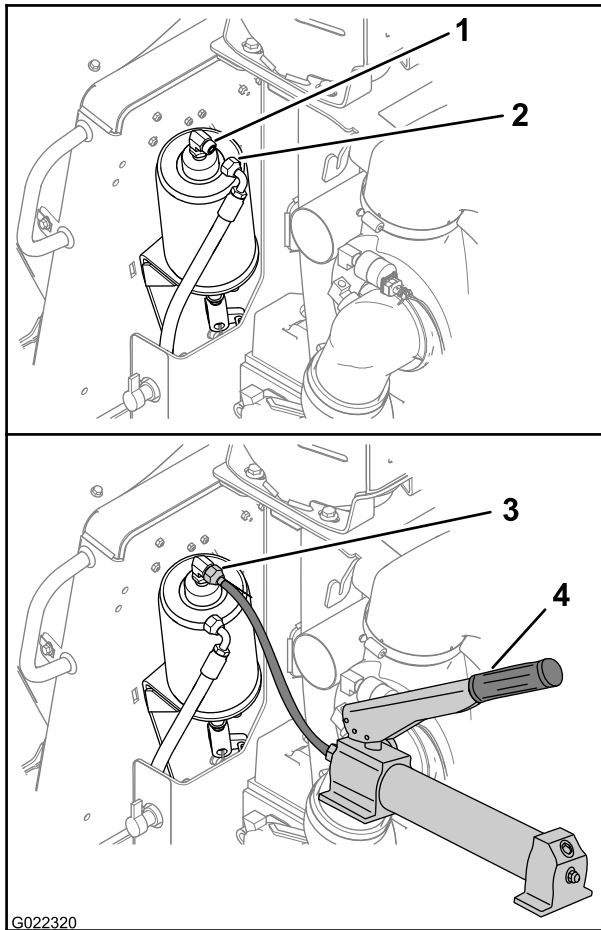

Figure 30
1. Disconnect the hydraulic hose from the parking brake cylinder as shown in Figure 30.
2. Connect a hydraulic-hand pump capable of producing 350 psi to the brake cylinder (Figure 30).